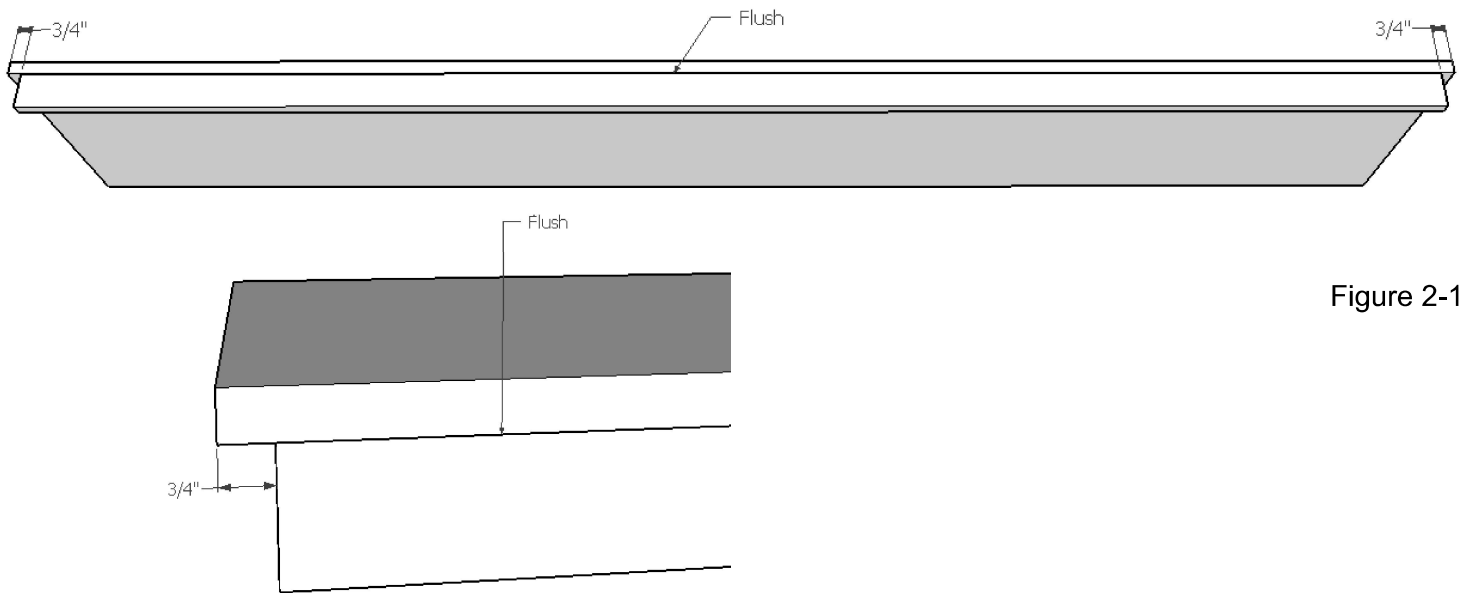

Figure 2-1
2-1 Attach the Top Facia to the Top Panel with glue and 1 ¼" Brad nails. Make sure the banded edge of the (D) Top Facia is down and the Top Fascia is attached to the banded edge of the Top Panel. Flush with the front and ¾" off each side. Divide any slight variance in the ¾" offset evenly on each side. **Change using 1 ½" Verticals: Measurements should be 1 ½" instead of ¾"**. Tip: use small hand clamps to hold the Top Facia in place while securing it with nails. (see figure 2-1)